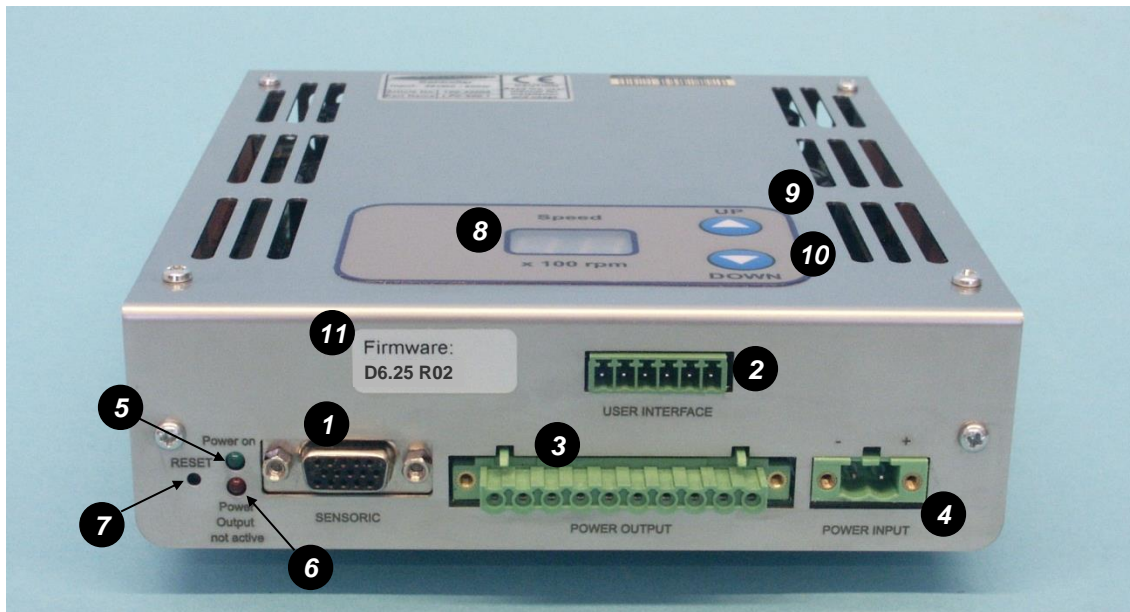
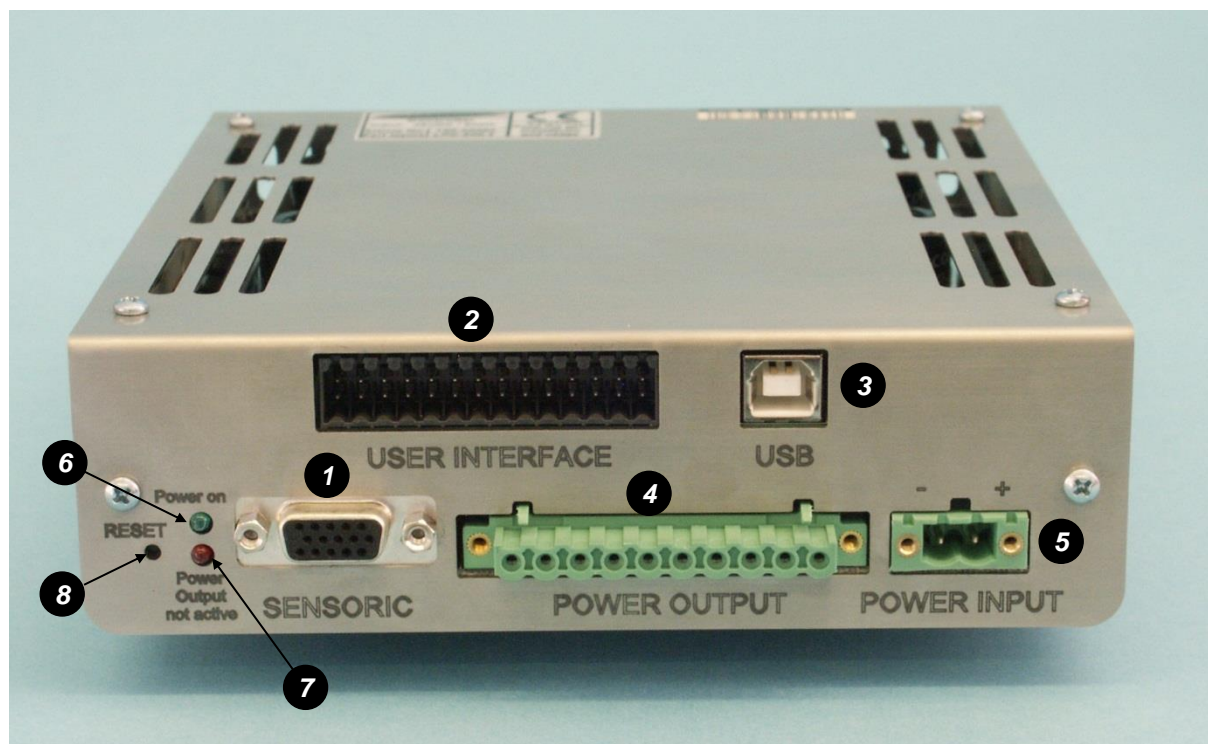

Figure 22: Overview of the controller *LPC-600.1* for standalone operation
Figure 23: Overview of the controller LPC-600.2 for extended operation
The *LPC-600* controllers have signal processor controlled power converters with four switched inverters for the drive and the bearing windings of the motor. The signal processor allows precise control of pump speed and impeller position. *Figure 22* shows the interfaces of the standalone controller *LPC-600.1* with stand-alone and minimal PLC functions and *Figure 23* the interfaces of the controller *LPC-600.2* with extended PLC functions and USB interface for communication.
5. Connect the DC power supply connector with the cable (included in the controller delivery). Make sure that the polarity is correct (see *Figure 22* and *Figure 23*) and that AC/DC power supply is off.